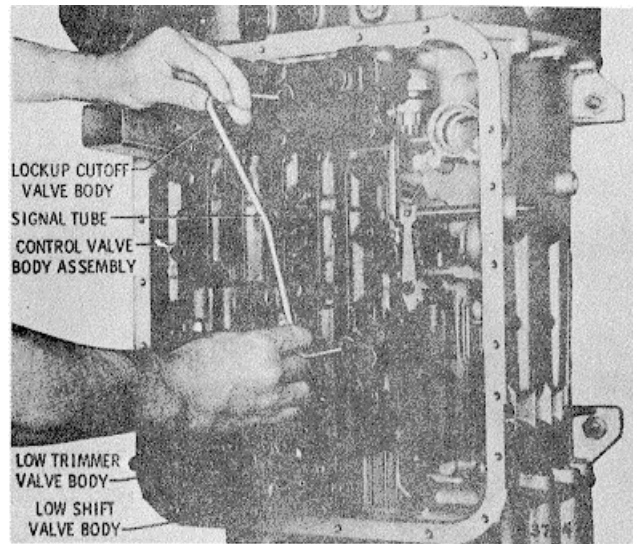

Fig. 5-12. Removing signal tube
(1) Remove the signal tube (fig. 5-12).